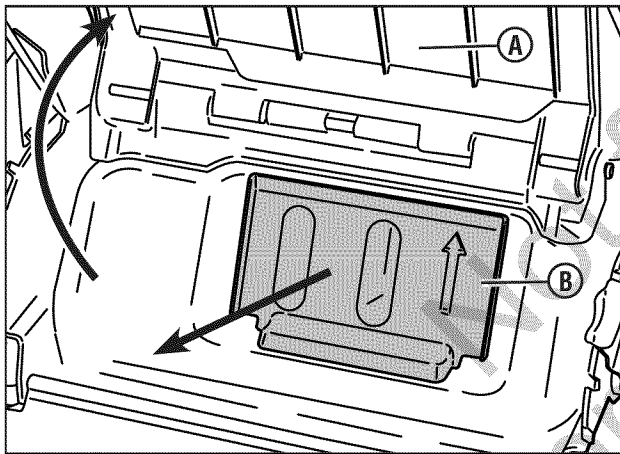

Figure 9: Removing the mulching plug
1. Raise the rear discharge door (A, Figure 9).
2. Remove the mulching plug (B) from the rear discharge chute.